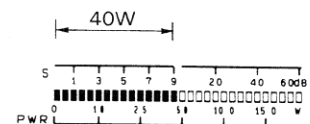

Fig.1
- 8 Adjust the CAR control so that the meter indicates as shown Fig.1.